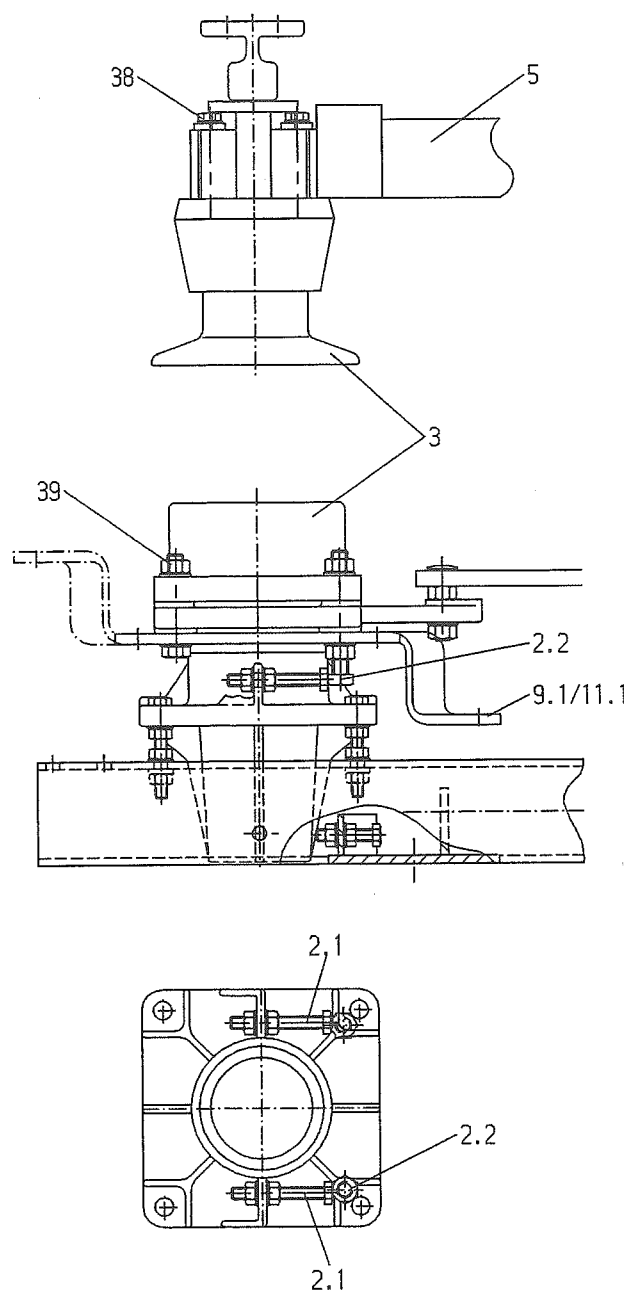

Figure 1: Assembling the assembly units
- Figure 1 Assembling the assembly units
- Place the support porcelains (3) on top and align them flush with the flanges of the rotary units (2). Use the bolts already pre-assembled to the flanges to fasten the support porcelains (Figure 1).